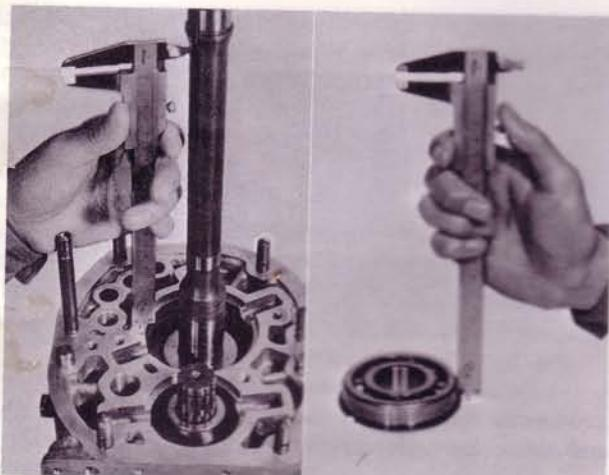

Fig. 7-22 Checking end play
17. Check the main shaft bearing end play, proceed as follows: Measure the depth of the main shaft bearing bore in the clutch housing by using a depth gauge. Then, measure the main shaft bearing height shown in Fig. 7-22. The difference between the two measurements indicates the required thickness of the adjusting shim. The standard end play is $0 \sim 0.1$ mm ($0 \sim 0.0039$ in). The adjusting shims are available in the following thickness: